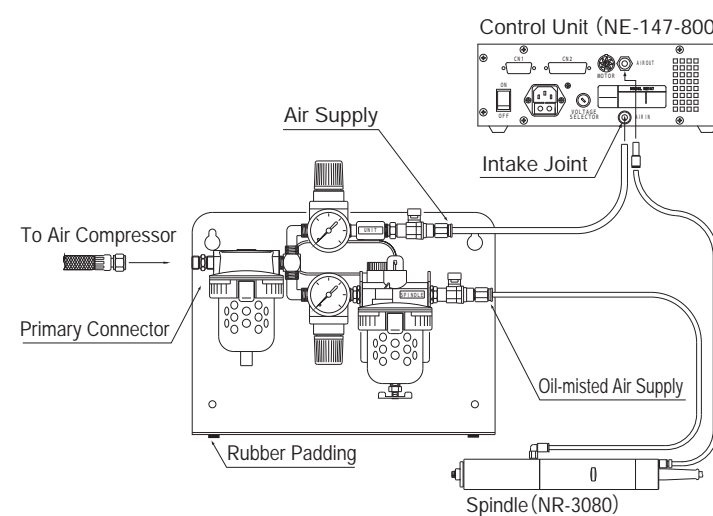

Fig. 8
- Connect the provided hose to Primary Connector. (See Fig. 8)
- Connect Air Supply Connector and Air Inlet Joint on the control unit with a $\phi 6.0$ mm air hose. (See Fig. 8)
- Connect Oil-misted Air Supply Connector to Spindle Connector with a $\phi 4.0$ mm air hose. (See Fig. 8)